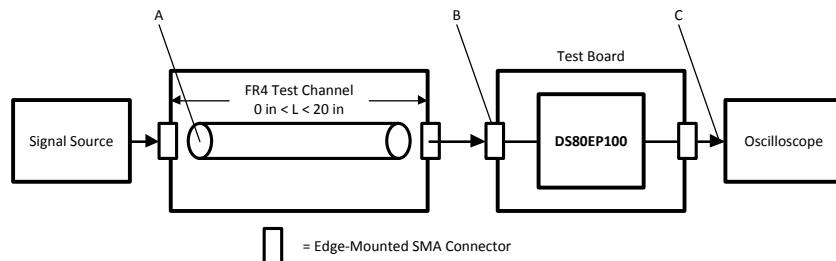

Figure 2. Transient Test Setup Diagram
- (1) The Electrical Characteristics tables list guaranteed specifications under the listed Recommended Operating Conditions except as otherwise modified or specified by the Electrical Characteristics Conditions and/or Notes. Typical specifications are estimations only and are not guaranteed.
- (2) Typical values represent most likely parametric norms, TA = +25 degC, and at the Recommended Operation Conditions at the time of product characterization and are not guaranteed.
- (3) Differential signal to Equalizer, measured at the input to a transmission line, see point A of Figure 2. The transmission line is $Z_0 = 100\Omega$, 6-mil, microstrip in FR4 material.
- (4) Deterministic jitter is measured at the differential outputs (point C of Figure 2), minus the deterministic jitter before the test channel (point A of Figure 2). Test pattern: PRBS- 7 .
- (5) Specification is guaranteed by characterization and is not tested in production.